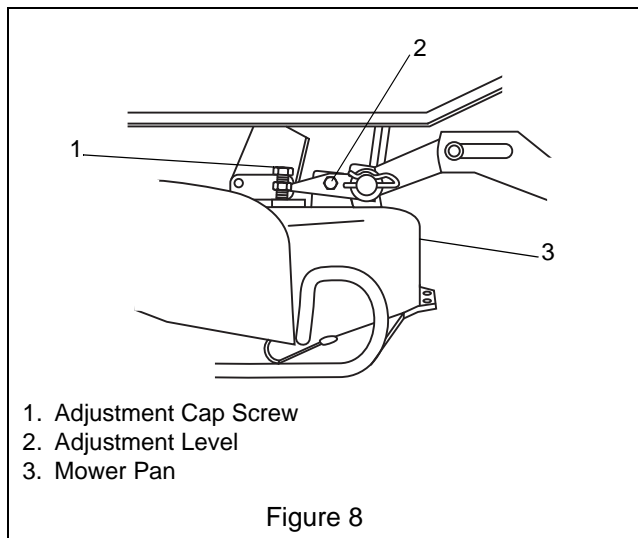

Figure 8
To level mower pan, turn adjustment cap screw on adjustment lever clockwise to raise right side or counterclockwise to lower it (Figure 8).
1. With blade (s) positioned side to side, measure distance of blade(s) tips to floor at right and left side of mower pan (Figures 8 and 9).